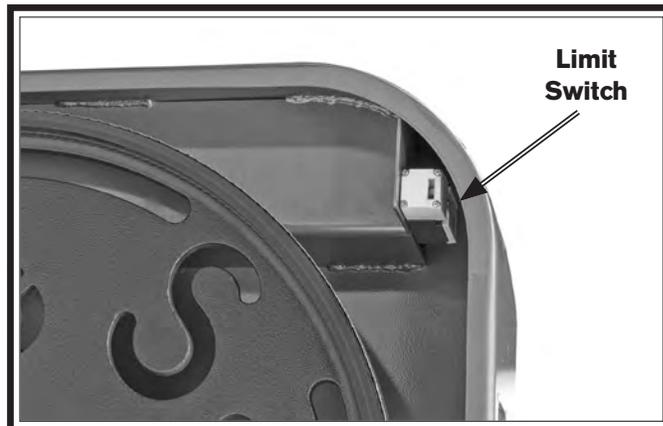

Figure 32. Location of limit switch in upper wheel cover.
11. Make sure blade has fully stopped, open upper wheel cover a few inches to reveal limit switch (see **Figure 32**), then turn bandsaw **ON**.